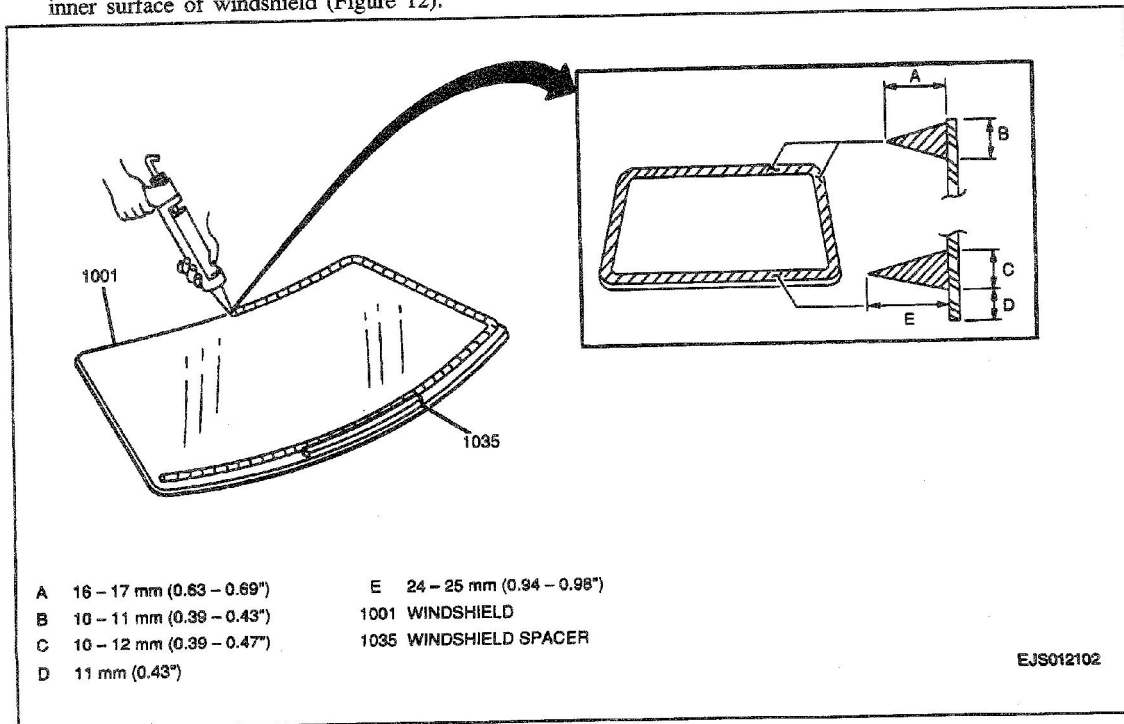

Figure 13—Applying Adhesive to Windshield
8. Using a cartridge-type caulking gun, apply a smooth continuous bead of urethane adhesive around edge of windshield (Figure 13).
- Adhesive height for upper left and right sides of windshield should be 16 to 17 mm (0.63 to 0.69-inch). For the bottom of the windshield, adhesive height should be 24 to 25 mm (0.94 to 0.98-inch) (Figure 13).
9. Using a cartridge-type caulking gun, apply a smooth continuous bead of urethane adhesive around primed surface edge of windshield (Figure 13).